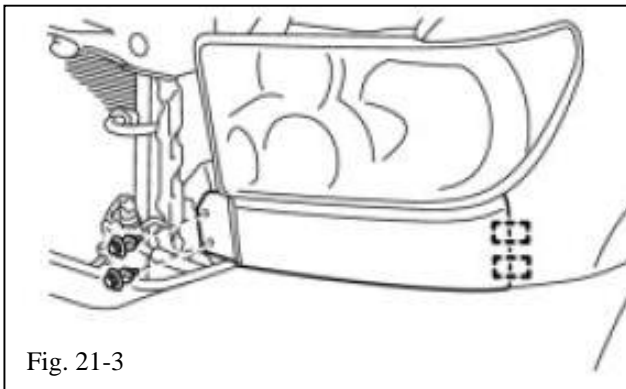

Fig. 21-3
- (1) Use a clip remover to remove the 2 clips on each panel (Fig. 21-3, left).
- (2) Detach the 2 pins (Fig. 21-3, right).